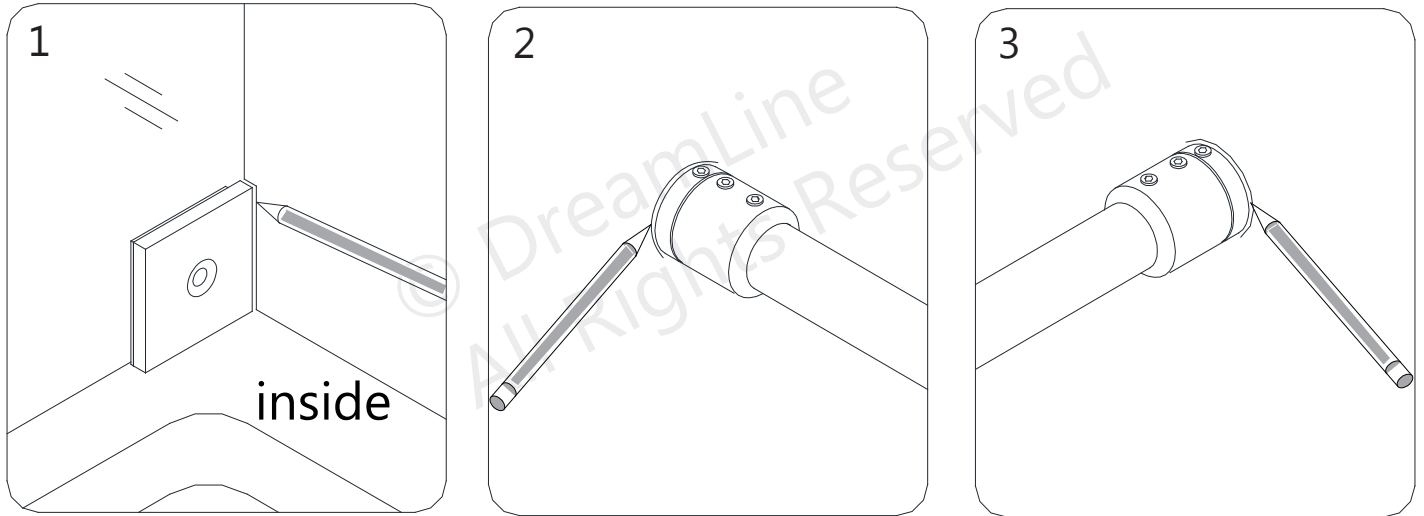

Fig 4
4. Once the **Upper Guide Rail (#03)** is level, mark the position of the **Wall Bracket (#19)** and **Guide Rail Brackets (#08)** on the wall. (Fig 4)